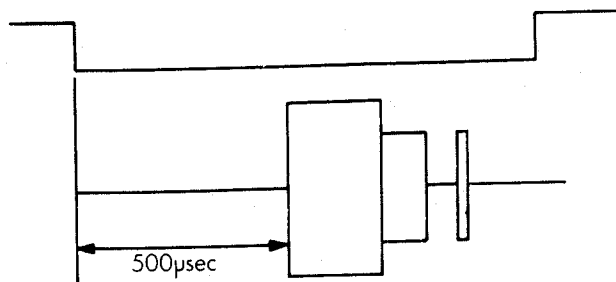

Fig. 5-1 Index burst waveform
- vi) Adjust VR201 so index frequency is 200 ± 2 ms (See Fig. 5-1).
- 5) Measure timing between sweep start and an initial data pulse. It should be 500 usec \pm 500 usec. When the timing is not within this range, proceed with the following adjustment. (Refer to Fig. 5-1).
- 8) Seek to the track OO and make sure that the timing is within 500 usec \pm 200 usec (\pm 300 usec). Tighten the screws. (Fig. 5-1).